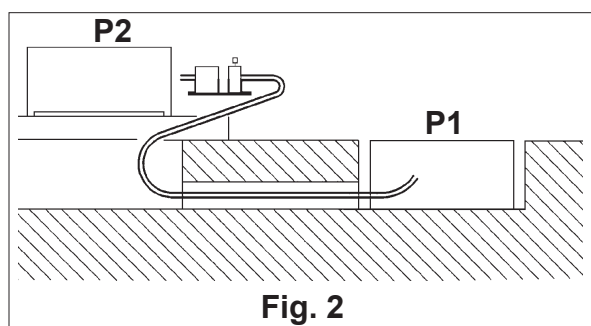

Fig. 2
- Remove the packaging, position the platform P1 (see lay-out) in the pit and the platform P2 on spacers so it is possible to install the hydraulic pipes in the floor channels (Fig.2).